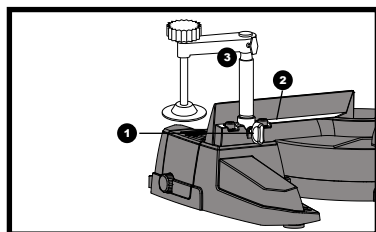

Fig 6
1) Loosen the lock knob (1) from the rear side of the saw base (2). (See fig. 6)
3) Tighten the lock knob (1). (See fig. 6)